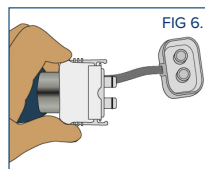

FIG 6.
- Seal using the cap marked 'Transport' (FIG 6).